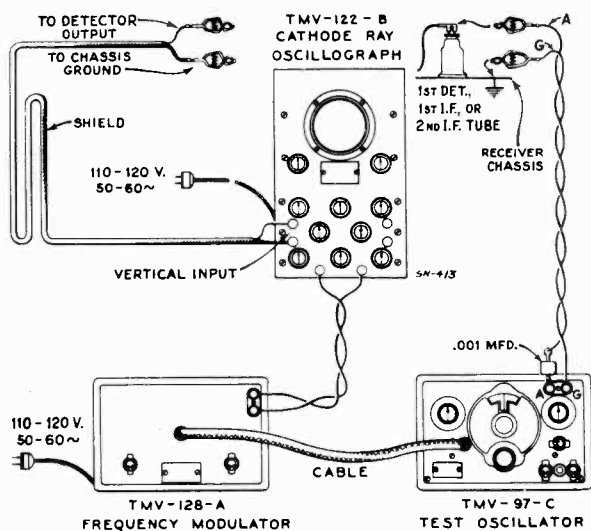
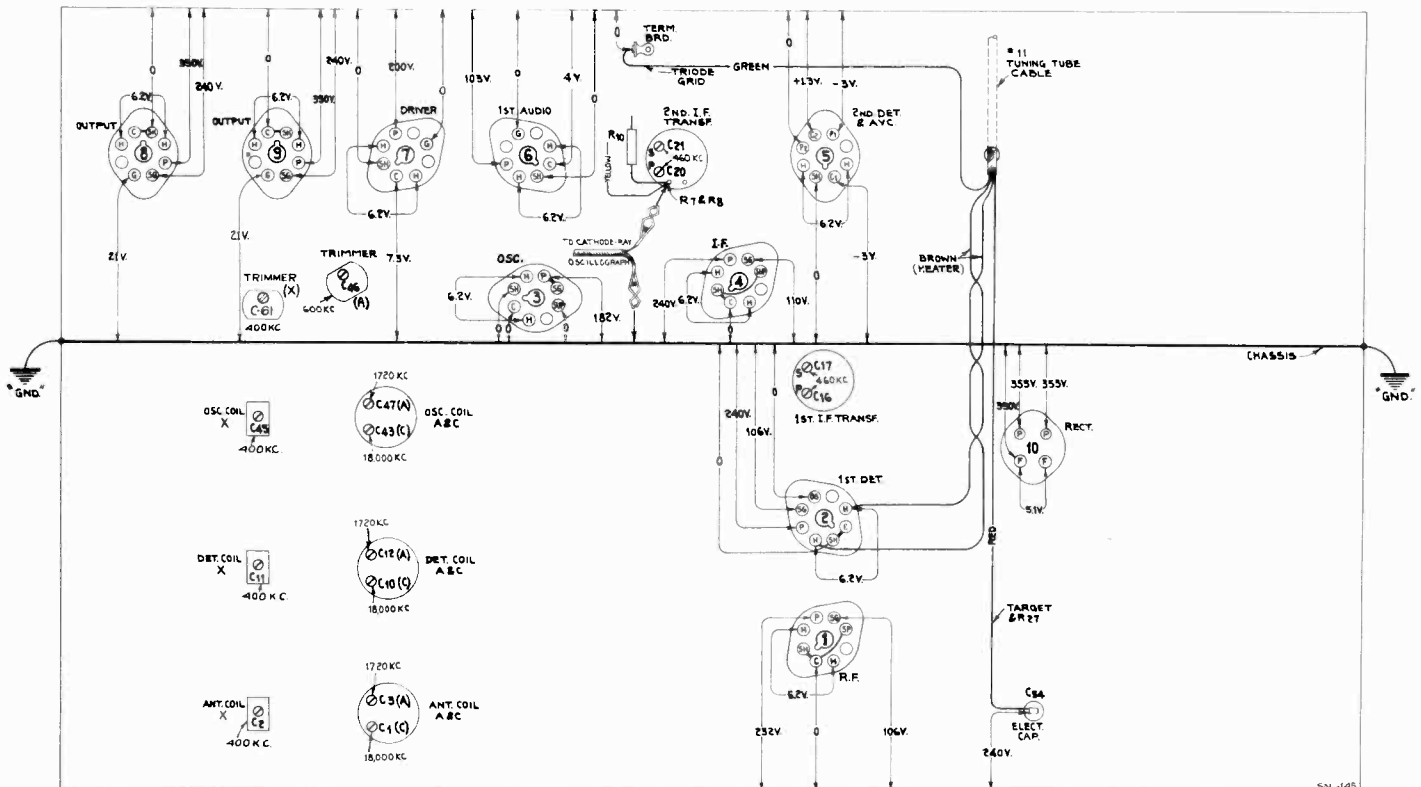

Figure 5—Alignment Apparatus Connections
Figure 6—Trimmer Locations and Radiotron Socket Voltages
The four trimmers of the two i-f transformers are located as shown by Figure 6. Each must be aligned
to a basic frequency of 460 kc. The last transformer must be aligned firstly and the first transformer aligned secondly. For such a process, it is necessary to feed the output of the Full Range Oscillator to the stages in their order of alignment, adjusting the trimmers of each transformer and observing the effect at the second detector output on the Cathode-Ray Oscillograph. The proper point of connection of the Oscillograph is with its vertical "high" input terminal attached to the juncture of R-7 and R-8, as illustrated in Figure 6, and with the "0" or ground terminal to the chassis. The "Ext. Sync." terminals of the Oscillograph should be connected to the Frequency Modulator as shown by Figure 5. A .001 mfd. capacitor installed in series with the Oscillator "Ant." lead will prevent the voltages of the stage under alignment from becoming upset. The vertical "A" amplifier should be "On" for the ensuing adjustments
- (b) Attach the output of the test Oscillator between the control grid cap of the RCA-6K7 i-f tube and chassis ground as shown typically by Figure 5. Tune the Oscillator to 460 kc. and set its modulation switch to "On." Regu-
- (c) The Frequency Modulator should then be placed in operation and interconnected with the Full Range Oscillator by means of the special shielded patch cord. Figure 5 shows the proper arrangement. Set the Frequency Modulator sweep range switch to its "Lo" position and turn the Oscillator modulation switch to "Off." Change the timing control of the Oscillograph to "Ext." and place the range switch to its No. 2 position. Then carefully shift the tuning of the Oscillator so as to increase its frequency, until two distinct and similar waves appear on the Oscillograph screen and become exactly co-incident at their highest points. This condition will be found to occur at an Oscillator setting of approximately 540 kc. The curves will be identical in shape but appearing in reversed positions. Adjust the frequency control of the Oscillograph in order to cause the waves to conform with the above requirement and to make them remain motionless on the screen. This will require a setting of approximately  $\frac{1}{2}$  clockwise rotation of the frequency control. The trimmers C-20 and C-21 should then be re-adjusted so that the two curves move together and become exactly coincident throughout their lengths, maintaining the maximum amplitude at which this condition can be brought about.
Locations of the various antenna, detector and oscillator coil trimmers are shown by Figure 6. The test Oscillator should be removed from connection with the i-f system and its output connected to the antenna-ground terminals of the receiver. No changes are to be made in the connections of the Oscillograph
Oscillator and Oscillograph made in accordance with Figure 5. Turn the modulation switch of the Oscillator to "Off" and retune the Oscillator (increase frequency) until the forward and reverse waves show on the Oscillograph and become coincident at their highest points. Adjust the trimmers C-47, C-12 and C-3 again, setting each to the point which produces the best coincidence and maximum amplitude of the wave images.
The voltage values indicated from the Radiotron socket contacts to chassis on Figure 6 will serve to assist in the location of causes for faulty operation. Each value as specified should hold within  $\pm 20\%$  when the receiver is normally operative at its rated supply voltage. Variations in excess of this limit will usually be indicative of trouble in the basic circuits. The voltages given are actual operating values and do not allow for inaccuracies which may be caused by the loading effect of a voltmeter's internal resistance.